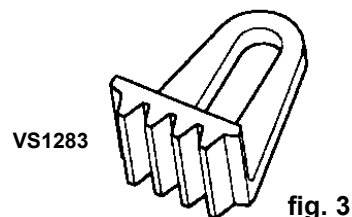

fig. 3
- ❑ **WARNING!** Locking Pins must NOT be used to hold the crankshaft whilst releasing or tightening the pulley bolt. Locking Pins are for retention of timing position only. Use appropriate Flywheel Holding Tool e.g. VS1283 (fig.3).